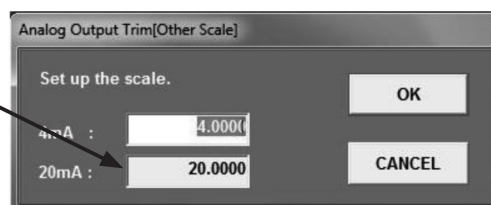

Fig.48
- ③ Clicking on "START" button brings up a message box as shown in Fig. 48. Entering an analog level (1V in this case) corresponding to the 4mA in the top row field allows a corresponding value to enter automatically in the second row field (20mA).